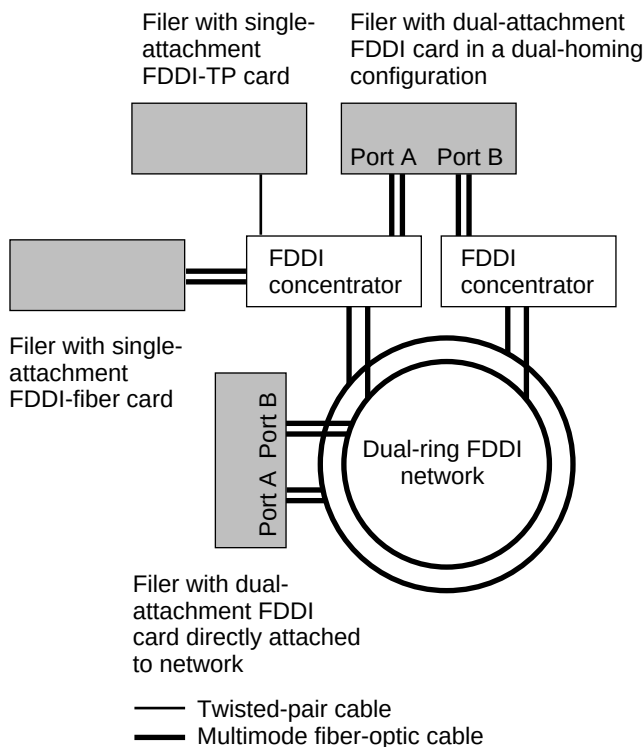

Figure 2-2 Sample FDDI network configuration
Single-attachment station. You can connect a single-attachment FDDI-TP or FDDI-fiber card to a dual-ring backbone through an FDDI concentrator. See Figure 2-2 for an example.
- By connecting the card directly to the primary and secondary FDDI rings using two duplex multimode fiber optic cables. See Figure 2-2 for an example.
- By using a redundant configuration called dual homing. In this configuration, the card is attached to two concentrators that are connected to the dual ring. Port A on the card is the backup connection that becomes active only if the primary connection (port B) fails. See Figure 2-2 for an example.